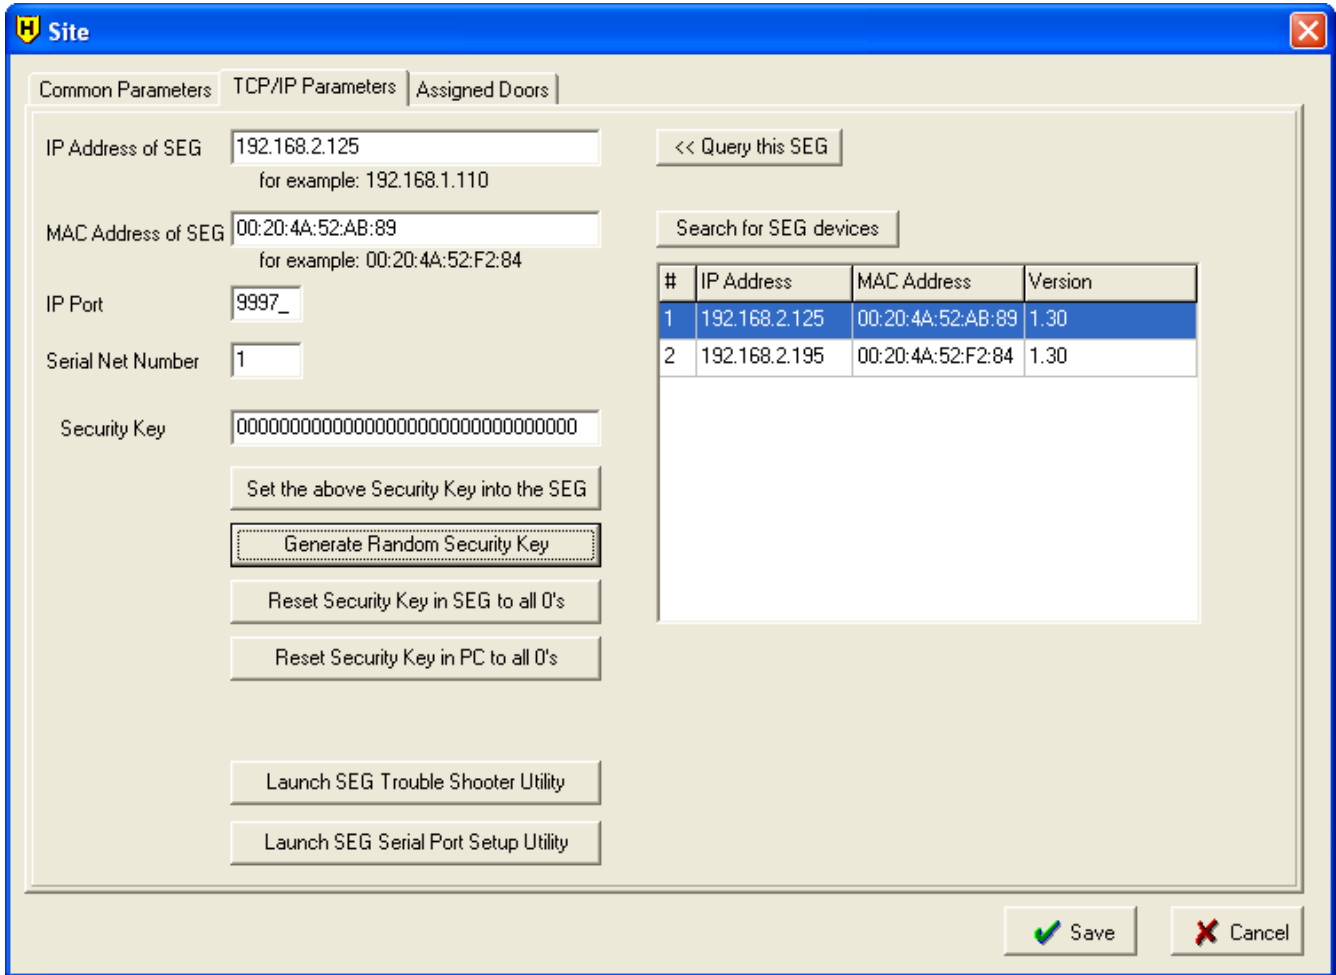
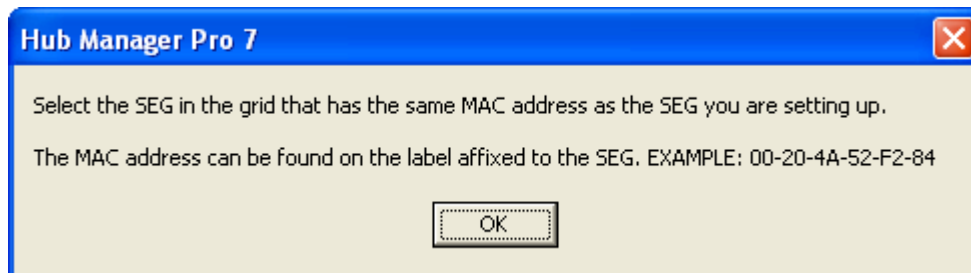

Figure 3: Found SEG's are displayed in grid
Figure 4: Select a SEG
3. In approximately 5-10 seconds a grid will be filled with any SEG devices that were found (Fig. 3) and a message will be displayed asking you to select a SEG in the grid (Fig. 4).